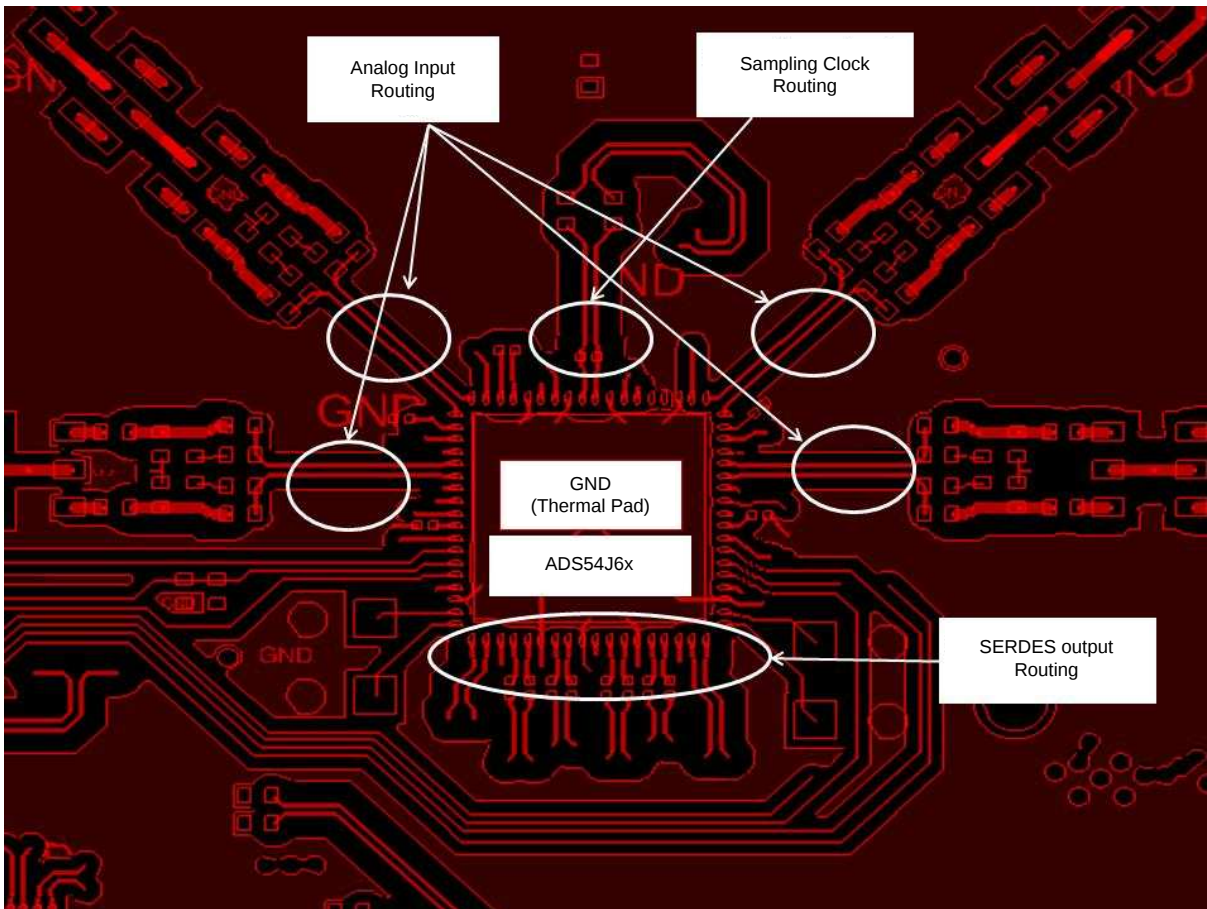

图 136. ADS54J64EVM Layout
The device evaluation module (EVM) layout can be used as a reference layout to obtain the best performance. Figure 136 shows a layout diagram of the EVM top layer. A complete layout of the EVM is available at the ADS54J64 EVM folder. Some important points to remember during board layout are:
- Analog inputs are located on opposite sides of the device pinout to ensure minimum crosstalk on the package level. To minimize crosstalk onboard, the analog inputs must exit the pinout in opposite directions, as shown in the reference layout of Figure 136 as much as possible.
- In the device pinout, the sampling clock is located on a side perpendicular to the analog inputs in order to minimize coupling between them. This configuration is also maintained on the reference layout of Figure 136 as much as possible.